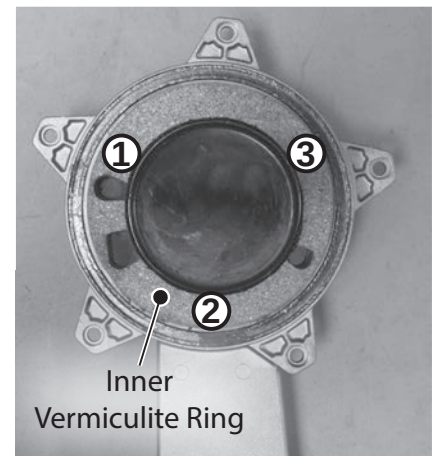

Figure 116 - Remove inner vermiculite ring
- 18** Locate the three (3) screws securing the inner vermiculite insulation ring to the burner door as shown in Figure 116. Use a Phillips screwdriver to remove screws. Place screws aside in a safe place for reinstallation.